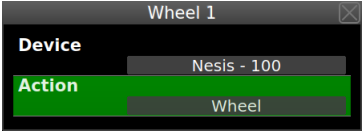

Figure 77: Joyu wheel movement was assigned to Nesis with serial number 100. Action in this case is knob rotate action, which equals to wheel.
4. Rotate a wheel. Same window appears, but with less options. Figure 77 illustrates an example.